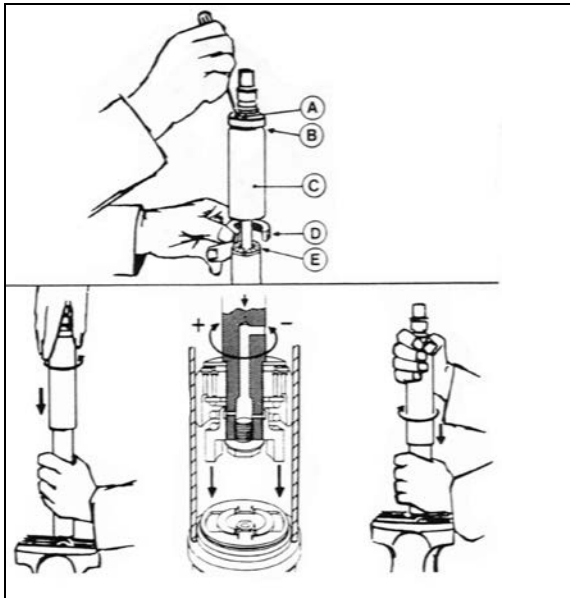

FIGURE 26: DAMPER
To adjust opening and closing cycle speed on damper (Figure 26):
2. Fully close the damper while turning the dust cap or piston rod slowly CCW until it is felt that the cams of the adjusting nut engage in the recesses of the foot valve assembly (Figure 26).
In Figure 26, if there is an indentation (B) in the dust cap (C) and the cover shows two holes (A), the damper is fitted with a bump rubber (D). If so, fully extend the damper and insert a round bar or screwdriver through the holes. Push the bump rubber down and remove. Remove the split plastic collar (E) (if fitted) from the piston rod.
Where a bump rubber was installed, refit same inside the dust cap and by fully closing the damper, the rubber will seat again at top of the dust cap. Refit the split plastic collar E (Figure 26).